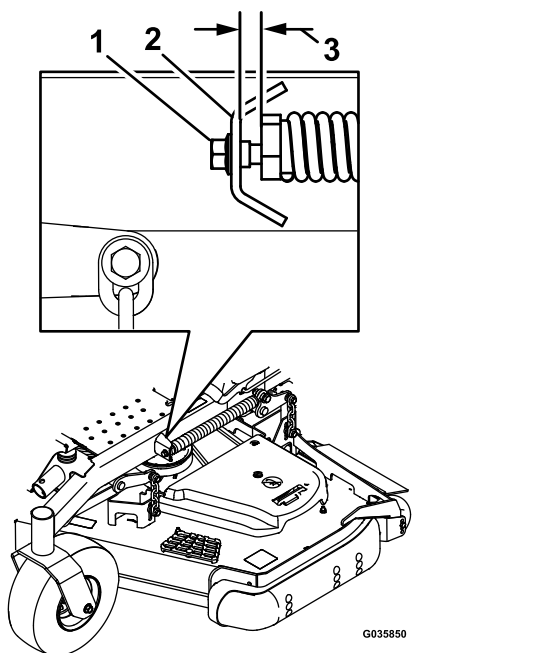

Figure 103
- B. Slowly loosen the adjusting screw on the lift-assist spring until you can remove the screw (see Figure 103).